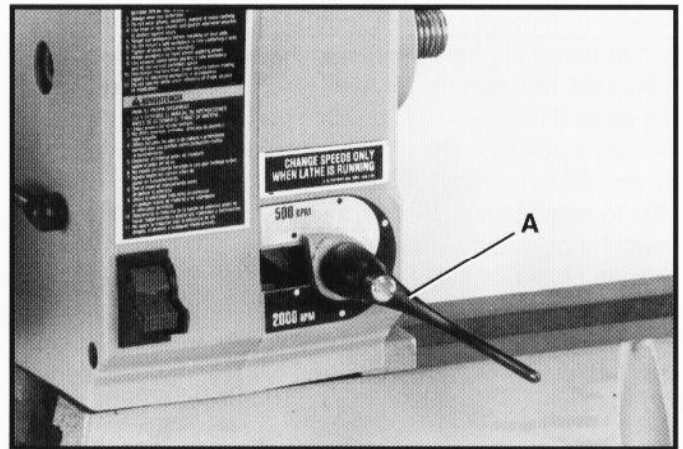

Fig. 23
Your 12" Wood Lathe is provided with variable rate spindle speeds from 500 to 2000 RPM. **IMPORTANT: CHANGE SPEEDS ONLY WHEN LATHE IS RUNNING.** To change speeds, rotate speed control lever (A) Fig. 23. Turning the lever (A) clockwise increases the speed and turning it counterclockwise decreases the speed. **NOTE:** Lever (A) is spring-loaded and can be repositioned by pulling out on the lever and repositioning it on the nut located underneath the lever.